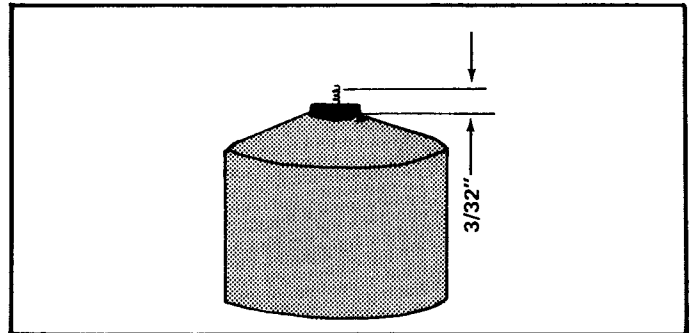

Figure 9. Carburetor Float Assembly
4. Check that float spring measures approximately  $3/32$ " (2.4mm) from top of float (not insert) to end of exposed spring. (Figure 9)